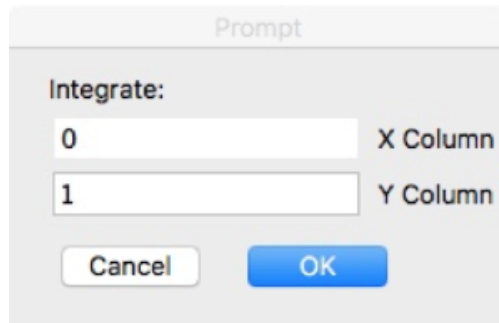

Figure 70- Prompt window allowing user to select data to use for the integrate area function.
- b. In the next window, enter which column of data is the X axis and which is the Y axis of your plot (**Figure 70**). X should be offset and Y should be the moment values. Select OK.